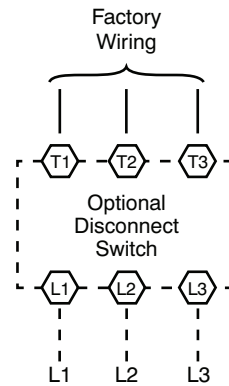

Fig. 22 - Power Wiring Connections
All field wiring must comply with local codes. Size wire based on MCA (Minimum Circuit Amps) on the unit informative plate. See Fig. 22 for power wiring connections to the unit power terminal block and equipment ground. Maximum wire size is 70.0 mm² (2/0 AWG) per pole.
3. Install power lines to terminal connections as shown in Fig. 22.